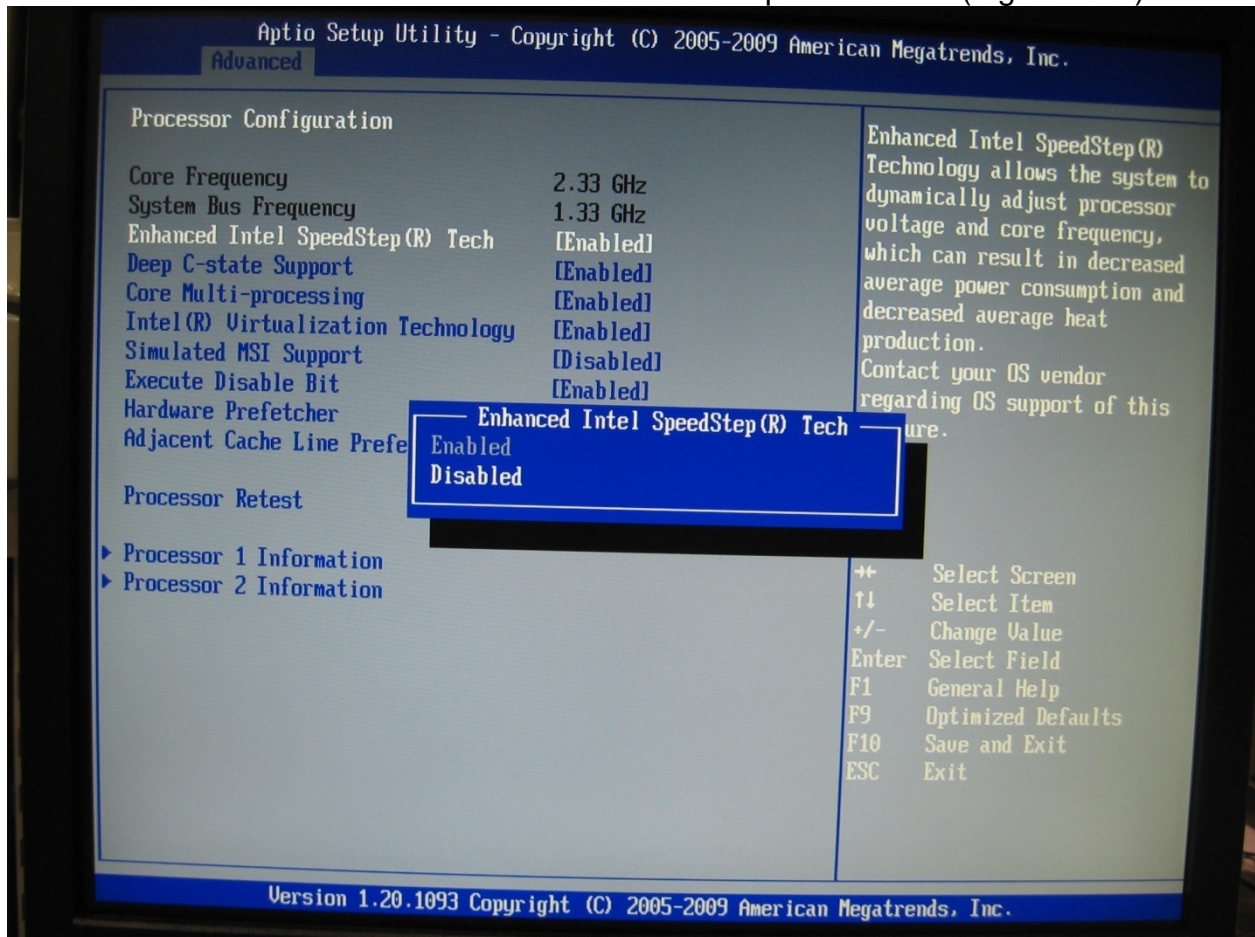

Figure 6-14 Enhanced Intel, Disable
- In the **Enhanced Intel** drop down menu select **Disable** and press **Enter**. (Figure 6-14).